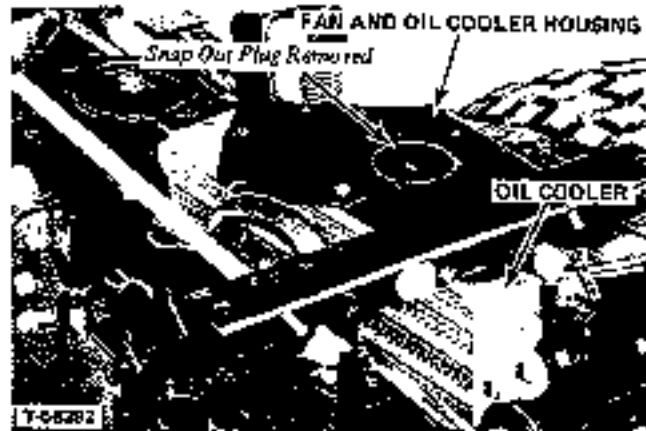

FIGURE 18
1. Transmission oil level shall be maintained up to the bottom of the oil level and fill plug (Figure 18). Fill with Allis-Chalmers gear lube 715 or good quality SAE 90 transmission oil.
If it should be necessary to drain transmission use the drain plug at lower side of housing (Figure 18).